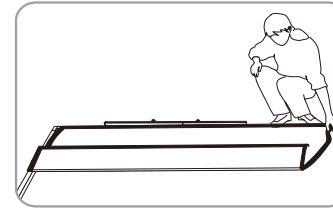

Figure 12
2. Snap screen buttons to frame. Start at frame corners and finish at frame sides ( Figure 12 - 14 ).